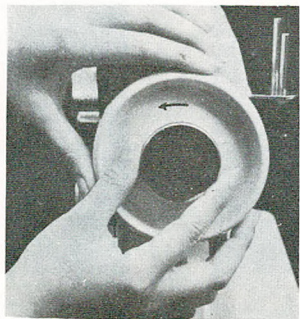
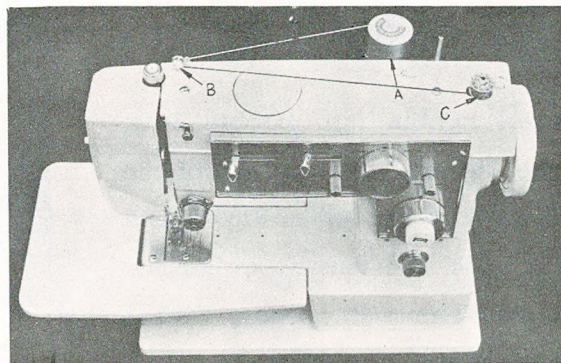

Fig. 4
Fig. 5
Holding the balance wheel firmly with the left hand, loosen the balance wheel by turning the stop motion knob toward you (Fig. 4). This will permit the balance wheel to turn freely while the needle bar remains motionless. Place a spool of thread on the spool pin(A). Pass the thread around the bobbin winder thread guide (B). Wind the end of the thread around an empty bobbin seven or eight times and put the threaded bobbin on the spindle (C) of the bobbin winder. Press down the bobbin with hand, making sure that the PIN on the spindle fits into the SLOT in the bobbin. (Fig. 5).